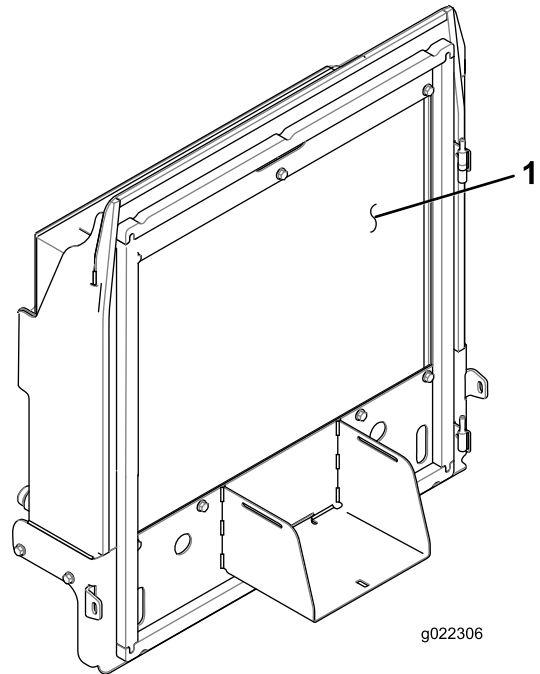

Figure 70
4. Thoroughly clean both sides of the radiator and oil cooler (Figure 70) with compressed air.